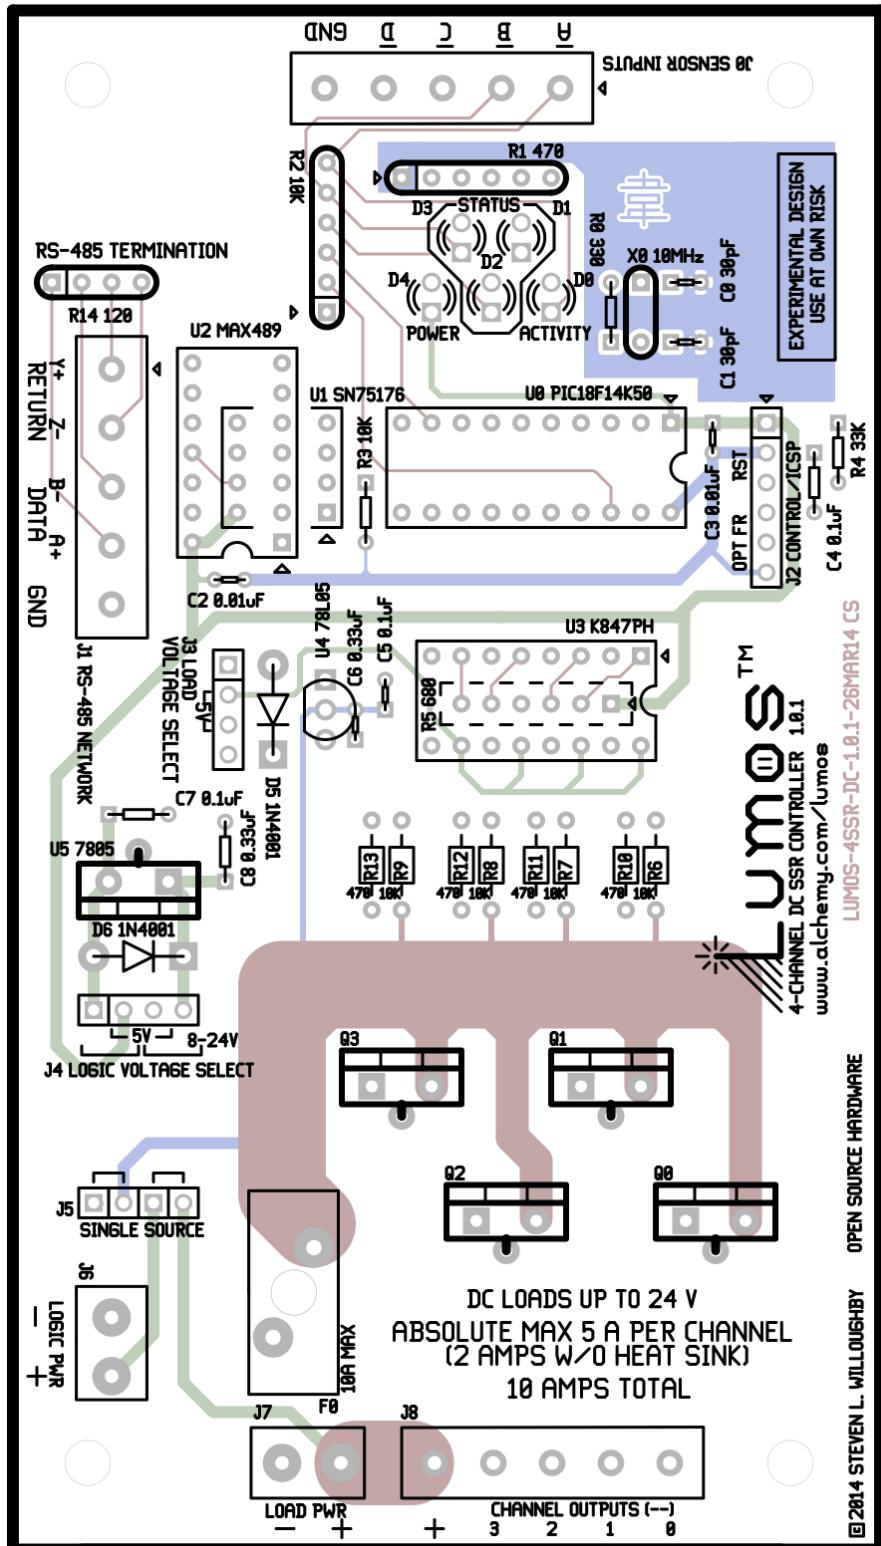
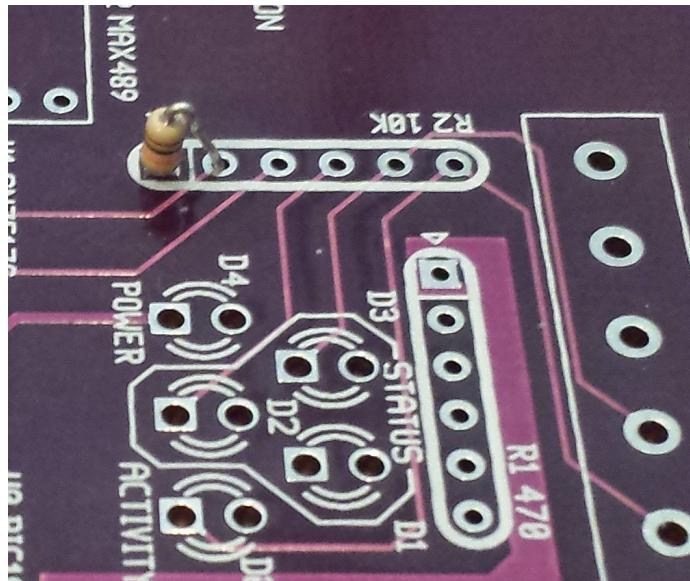

Figure 5.1: Lumos Board Parts Placement Diagram
Figure 5.3: Discrete R2 Resistor If No Sensor Inputs Are Used
Refer to Figure 5.1 throughout these instructions to see where the components are located on the PCB. The locations are also labeled on the PCB itself.
1. Install a  $330\Omega$  resistor in position R0 as marked on the PCB and Figure 5.1. This is marked with the color bands “orange-orange-brown.” Push it all the way until flush with the PCB.
4. Repeat steps 1–3 to install (5) 10 K resistors (“brown-black-orange”) at R3 and R6–R9.
5. Repeat steps 1–3 to install (4)  $470\Omega$  resistors (“yellow-violet-brown”) at R10–R13.
7. **If you will not be installing sensor inputs**, you will not install the 10 K resistor network at R2. However, you will instead install a single 10 K resistor between pins 1 and 2 of R2. See Figure 5.3 for a photo of what this looks like.
8. In the same fashion, install and solder (2)  $30\text{ pF}$  or  $33\text{ pF}$  capacitors into positions marked C0–C1.
9. Install and solder (2)  $0.01\mu\text{F}$  capacitors into positions C2–C3.
10. Install and solder (3)  $0.1\mu\text{F}$  capacitors into positions C4, C5, and C7.
11. Install and solder (2)  $0.33\mu\text{F}$  capacitors into positions C6 and C8.
12. Install (2) 1N4004 diodes at D5 and D6. **Note: These parts will not function if inserted the wrong direction.** Each diode has a stripe on one end. This end is inserted into the hole marked by the straight line (cathode) drawn on the PCB. The unmarked end goes into the hole marked by the triangle (anode). Solder into place.
13. Install (2) green LEDs at D1 and D4. **Note: These must be inserted in the correct orientation.** The longer lead (anode) goes into the square hole, while the shorter lead (cathode) goes into the round hole. Solder into place.
14. Install (2) yellow LEDs at D0 and D2, noting the cautions from the previous step. **Note: if you will be using sensor inputs, you may wish to omit D0 and/or D2. See Chapter 7 for details before installing these parts.** Solder into place.